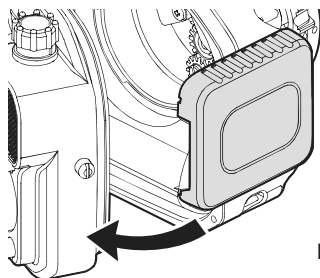

Fig.2
- 2 Pull the rear case to open (Fig.2)**
- 2 Turn off the power of the camera and place it as shown in Fig.2